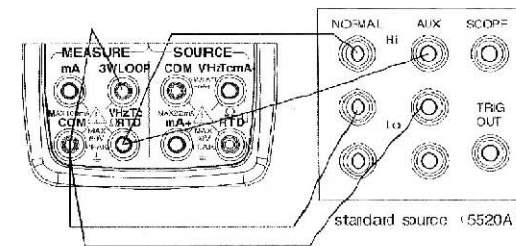

Figure 18 Adjusting all ranges of ohms
Step 3: Connect the lead cables to the output terminals of the standard source as shown in Figure 18.